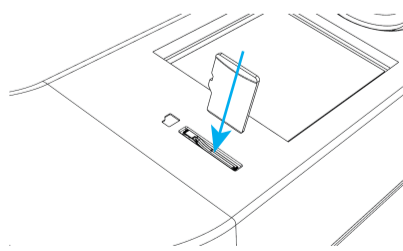

Figure 10
01. Put the G-code into the Micro SD and then insert it into the card slot of the M1, as shown in Figure 10 below.